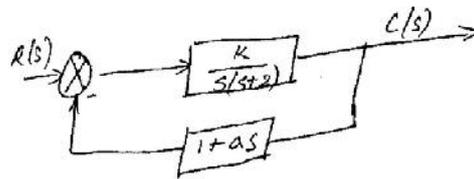

Fig. 4.
(1) Find the expression for closed-loop transfer function.
(2) Obtain the undamped natural frequency and damping ratio. (8)
- (ii) Determine the value of 'K' and 'α' such that the system has a damping ratio of 0.7 and an undamped natural frequency of 4 rad/sec for the system shown in Fig. 4. (8)